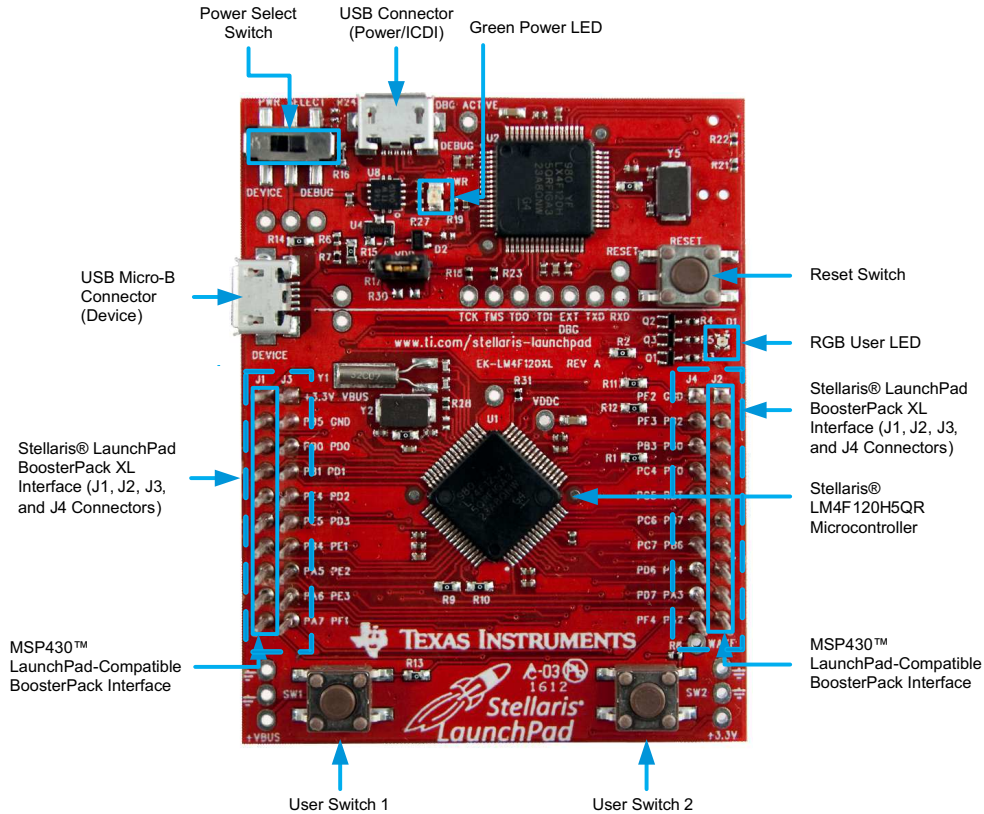

Figure 1.2: Launchpad Board
The key component used in the tutorials is the Stellaris Launchpad board produced by Texas Instruments (TI). The board, illustrated in Figure 1.2, includes a user configurable LM4F120H5QR micro-controller with 256 KB flash and 32 KB RAM as well as integrated circuit debug interface (ICDI). With appropriate software running on the host it is possible to connect to the LM4F120 processor to download, execute and debug user code.
In Figure 1.2, there is a horizontal white line slightly above the the midpoint. Below the line are the LM4120H5QR, crystal oscillators, user accessible RGB LED, user accessible push-buttons and a reset push button. Above the line is the hardware debugger interface including a 3.3V